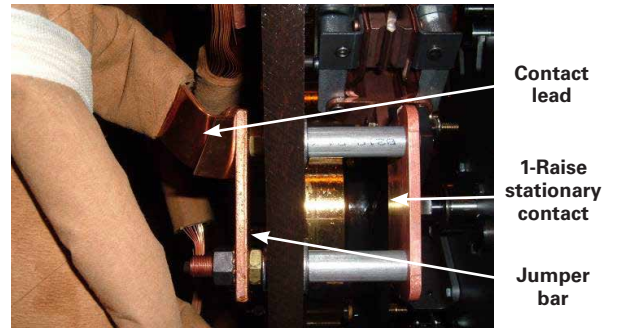

Figure 3.
3. Remove the nuts from the 1 raise stationary contact posts using a 9/16 inch deep well socket. Remove the 1 raise stationary contact lead (if tap changer is installed on unit) and jumper bar from the 1 raise stationary contact posts. Remove the 1 raise stationary contact from the phenolic panel (refer to Figure 3). Save the nuts for re-assembly.